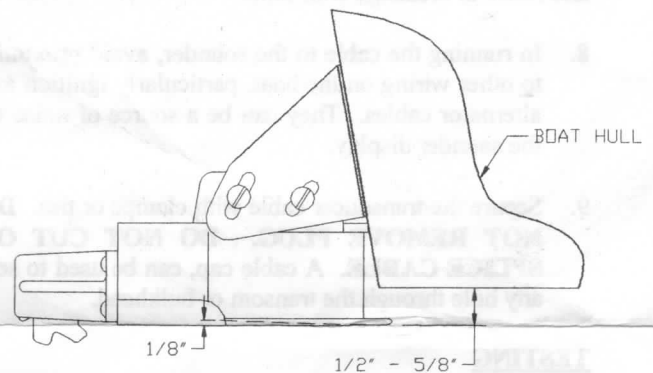

Figure 2 – Mounting the Transducer.
2. Place assembly on transom at selected location with the front of the transducer extending 1/2" to 5/8" below the bottom of the boat and with the front part against the transom. See Figure 2. The least amount that the transducer extends below the bottom is desirable. If too low, spray and turbulence will occur.
6. Before final tightening the 4 screws holding the brackets to the transducer, tip the rear edge down approximately 1/8" as shown in Figure 2.